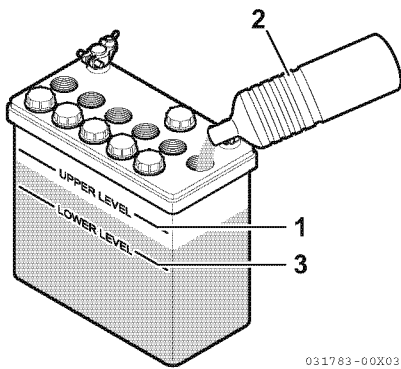

Figure 5-5
- When the amount of fluid nears the lower limit (3, **Figure 5-5**), fill with distilled water (2, **Figure 5-5**) so it is at the upper limit (1, **Figure 5-5**). If operation continues with insufficient battery fluid, the battery life is shortened, and the battery may overheat and explode. During the summer, check the fluid level more often than specified.